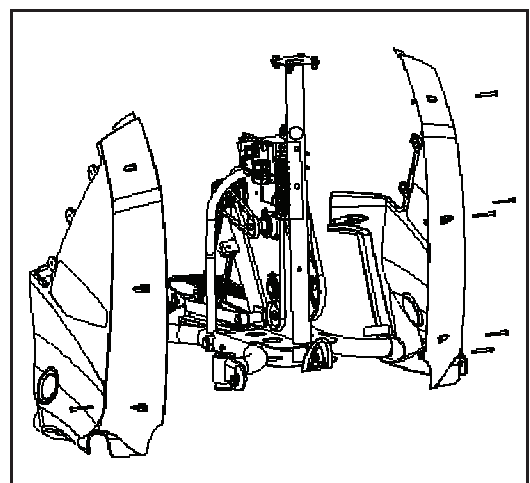

Figure 8
- 5-2** Remove the 6 Phillips screws attaching the right and left side covers and place to the side (see Figure 8).